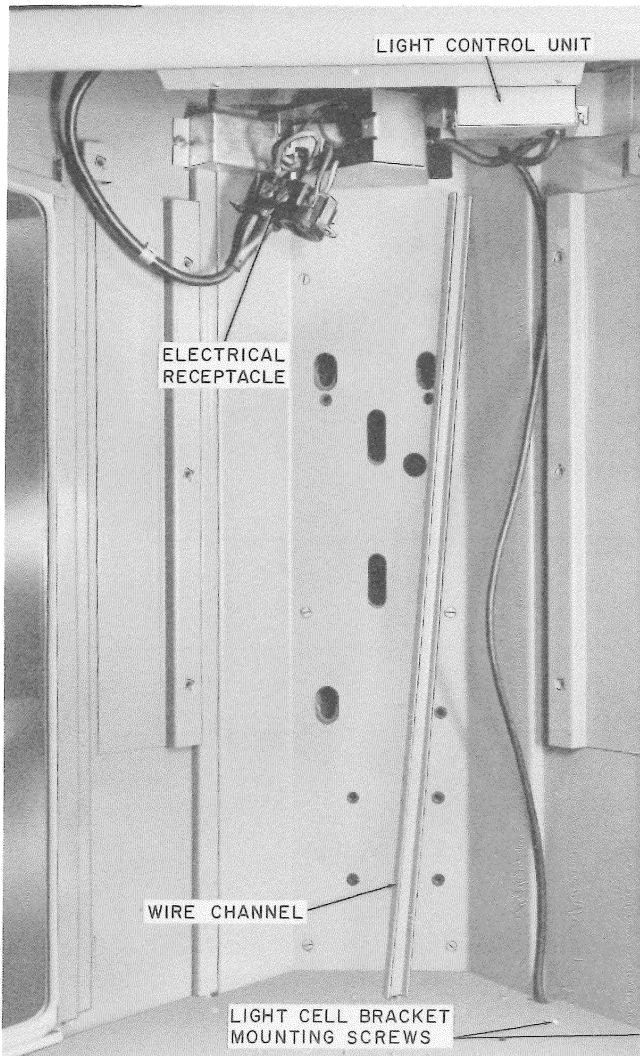

Fig. 16—Installation of List 3 Light Control Unit
- (c) Remove wire channel (Fig. 16) from right side of housing.